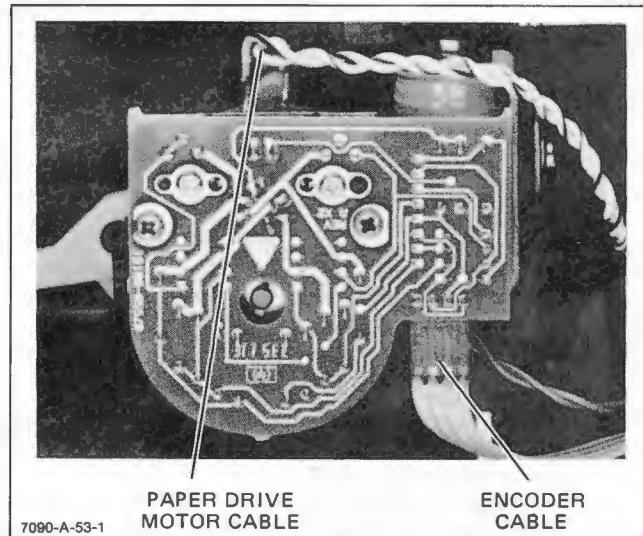

Figure 8-17. Paper Drive Motor
- b. Disconnect the paper drive motor cable (twisted pair) and the encoder cable. See Figure 8-17.